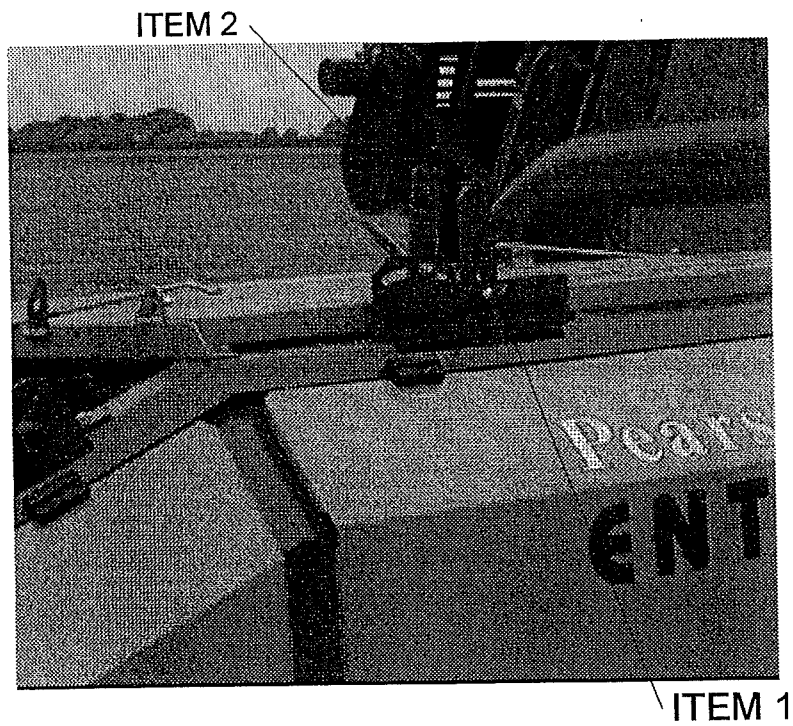
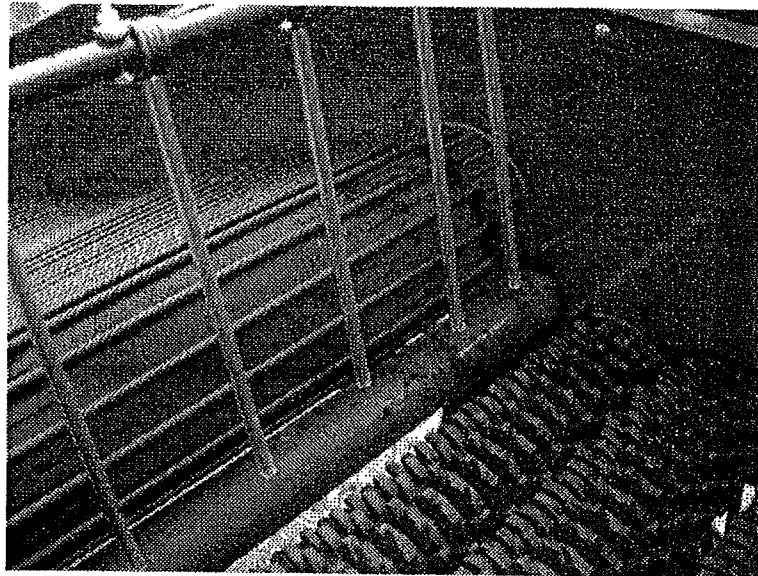

Fig 7.6
Fig 7.10
An over-centre handle on the left hand side of the machine (Fig 7.6 item 1) is used to release the spring tension which holds the haulm roller in position against the web. Use this handle to open the rollers if a blockage occurs and also before making adjustments to the roller settings.
The vertical position of the haulm roller, in relation to the web can be adjusted by means of levers which extend above the drive guards at either end of the roller (Fig 7.6 item 1).
The finger assembly (fig 7.10), is adjustable for angle by means of a lever positioned on the left hand side of the assembly (fig 7.6 item 2). When the lever is in the forward position the haulm fingers are out of work. Moving the lever rearwards lowers the fingers towards the crop and haulm passing over the web.